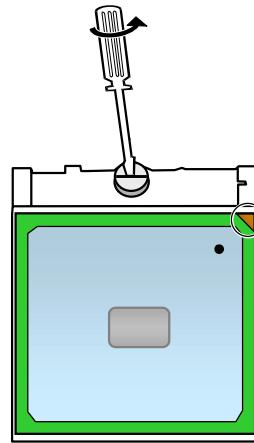

Figure 2-6 Remove the CPU
4. To remove the existing CPU, Loosen the screw by a flat screwdriver, upraise the CPU socket to unlock the CPU. (Figure 2-6)